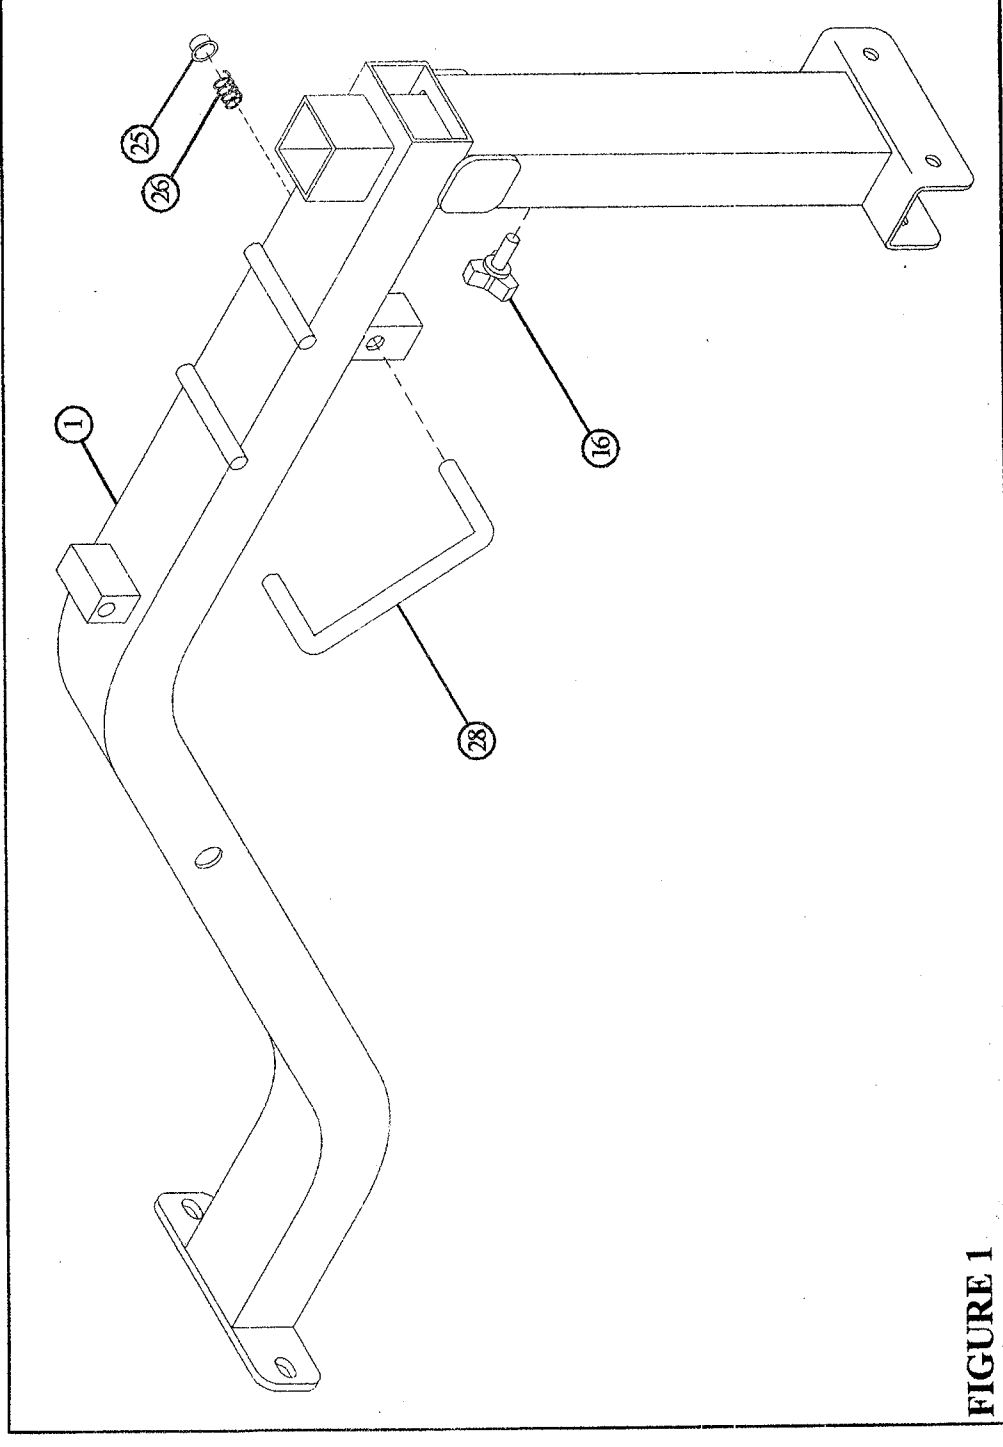

FIGURE 1
- Assemble the 1/2" DIA. U-PIN (29) to the BENCHFRAME (1) using one 1/2 X 1" SPRING (26), and one 1/2" PAL NUT (25) as shown in FIGURE 1.
- Thread one THUMBSCREW (16) into the BENCH FRAME (1) as shown in FIGURE 1. The THUMBSCREW (16) will be used to tighten down attachments.